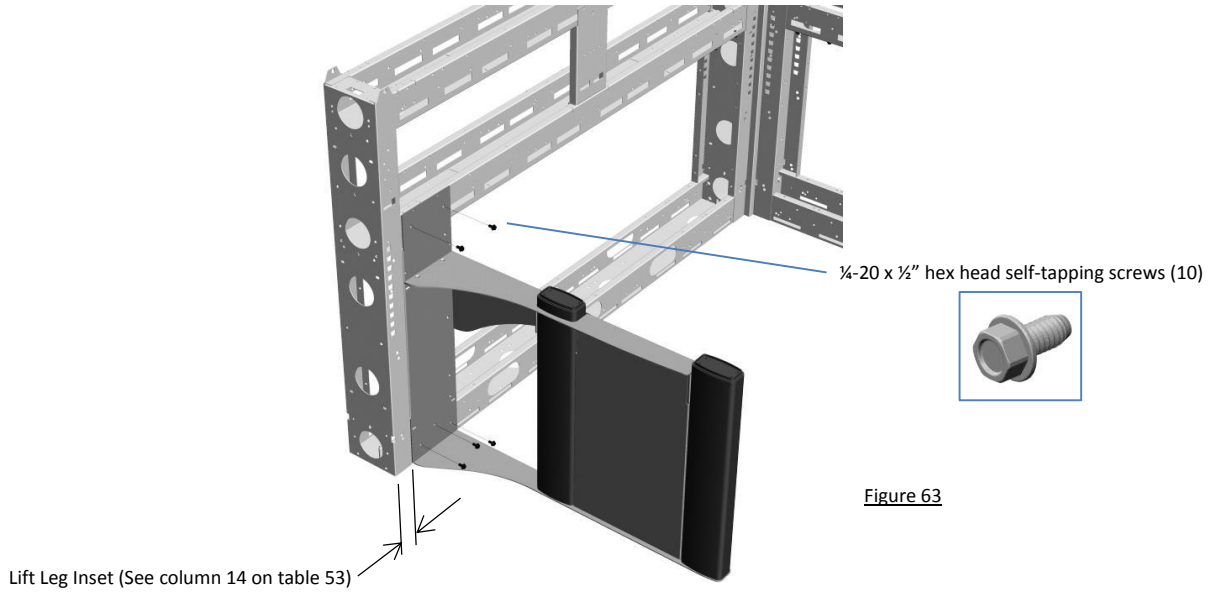

Figure 63
- b. Refer to column 14 in table 53 to determine the lift leg inset. Then attach the outer lift leg assembly to the core wall with (5) ¼-20 x ½" hex head self-tapping screws, as shown in figure 63. (A 2-1/2" inset is shown in this example.)
- c. Install (2) #10 x 3/8" Phillips head self-tapping screws into the top of the lift leg face plate. Leave the screws protruding about 1/16". Engage the "U" slots in the top of the upper leg skin onto the screws. The lower leg skin magnetically attaches to the face plate.